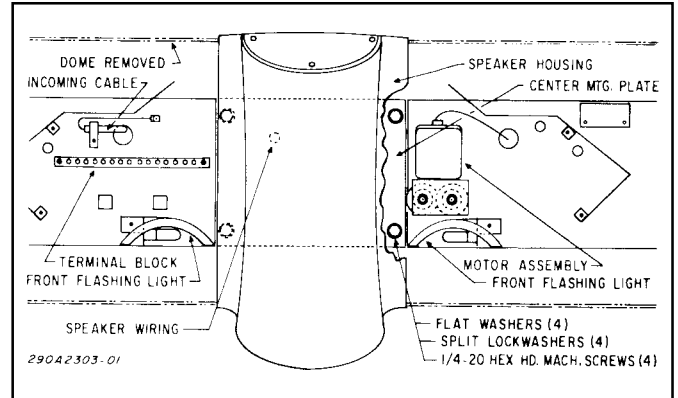

Figure 1.
2. Remove the four (each) 1/4-20 hex head screws, flat washers and split lockwashers which secure the speaker housing (see figure 1). Save the